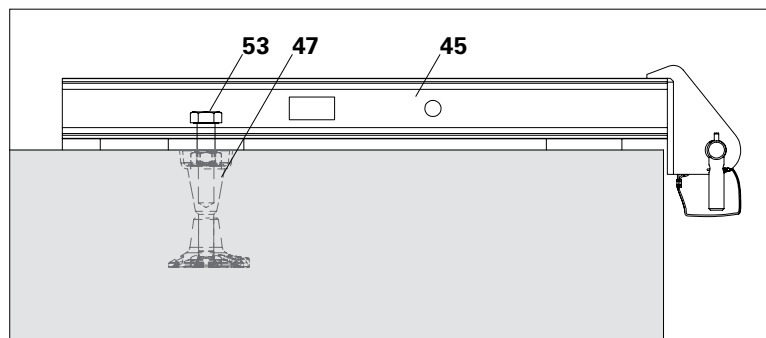
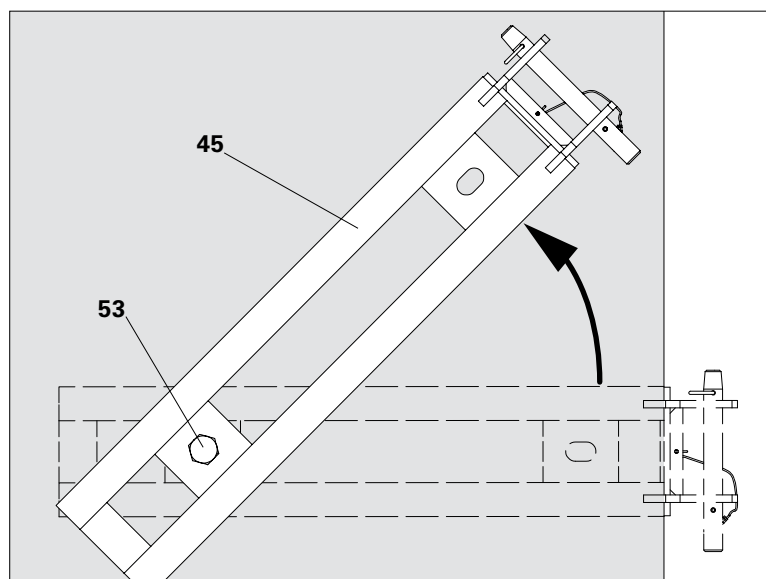

Fig. D1.12a
Fig. D1.12b
4. Loosen bolt M24 x 70 (53) approx. 15 mm, but do not remove. (Fig. D1.12a)
5. Lift Slab Shoe RCS (45) and turn it inwards to a secure position.
6. Remove bolt M24 x 70. (Fig. D1.12b)